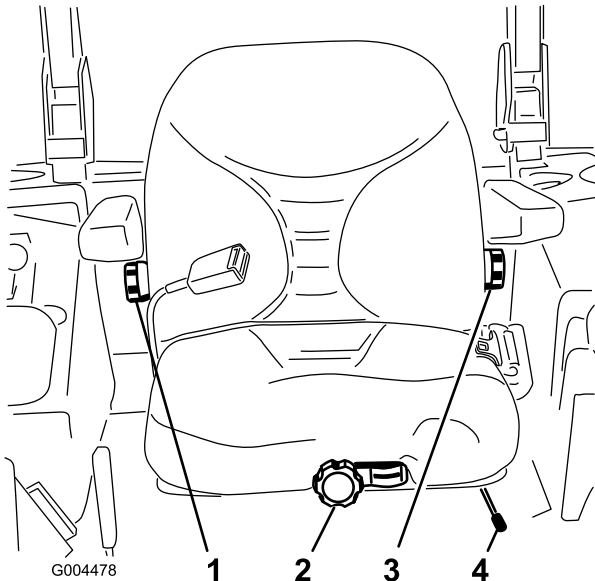

Figure 54
1. To adjust, move the lever sideways to unlock the seat (Figure 54).
Without sitting on the seat, turn the knob in front either direction to provide the best comfort (Figure 54).
To adjust it, turn the knob, under the right-side arm rest, in either direction to provide the best comfort (Figure 54).
To adjust it, turn the knob, under the left-side arm rest, in either direction to provide the best comfort (Figure 54).